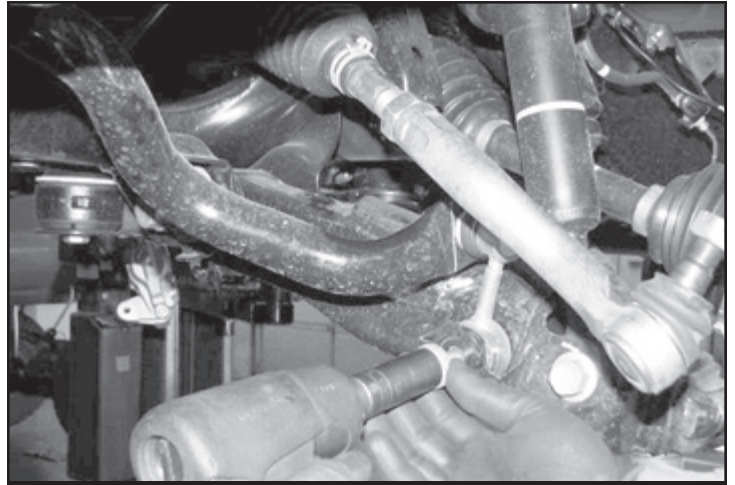

FIGURE 50
28. Reinstall the lower sway bar link to the lower control arm. Torque to 100 ft – lbs. **SEE FIGURE 50**